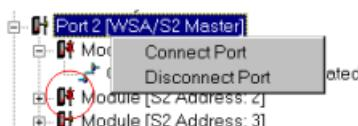

Figure 4.18 Port right-click menu
- b) Right-click the required port to open the menu shown in figure 4.18.